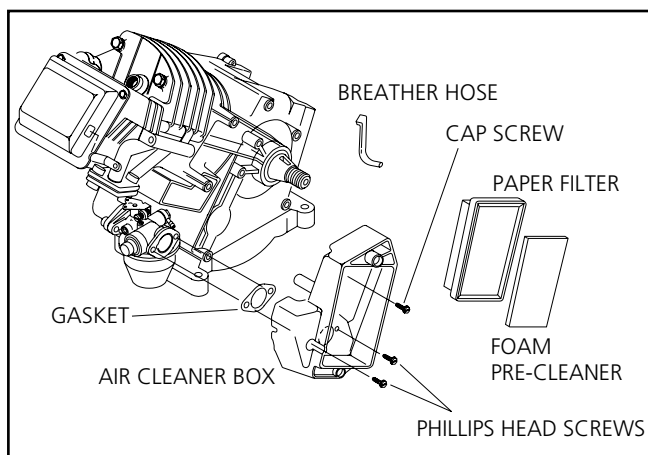

Figure 3-3. Removal of Air Cleaner Box, Primer Style Carburetor
1. Remove the cap screw in the upper part of the air cleaner box and the two phillips head screws in the lower part of the air cleaner box (see Figure 3-3).